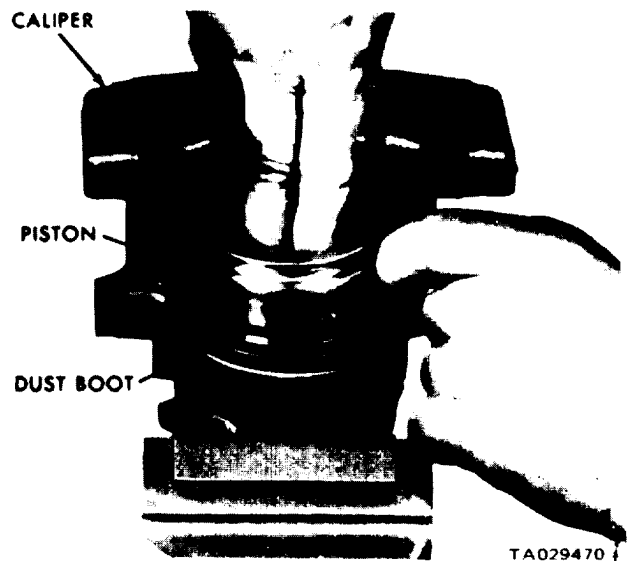

Figure 22-10. Installing Piston.
(5) Coat the piston with brake fluid.
(6) Spread the boot with your fingers and work the piston into the boot (figure 22-10). Push it down until it bottoms.